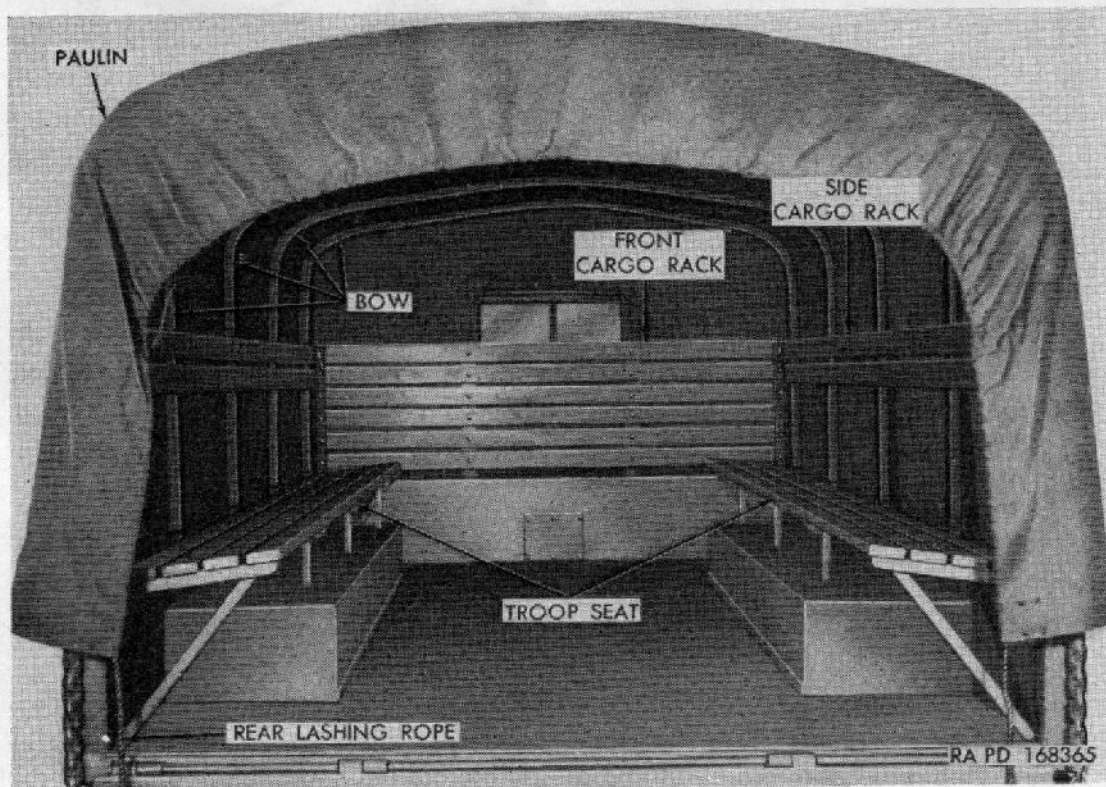

Figure 156. Troop seats—M34.
- (1) *Removal.* If top paulin is not removed, loosen paulin front and rear draw ropes. Untie front and rear curtain lashing ropes. Unwind curtain lashing ropes from front and rear bows and remove curtains. Tie front and rear paulin draw ropes.
- (2) *Stowing.* Do not fold or stow curtains when wet.
- (3) *Installation.* Place curtains in position on front and rear bows. Make certain center of lashing rope is in center eyelet of curtain. Wind lashing rope, alternately around bow and through eyelets in curtain, and tie ends of rope to lashing hooks. Tie front and rear paulin draw ropes.
- (4) *Ventilation.* Both front and rear curtains are equipped with openings for ventilations. The flaps covering these openings may be opened.
f. **TROOP SEATS (fig. 156).**
- (1) *Removal.* Troop seats are removed with side cargo racks or can be removed separately. To remove side cargo racks,